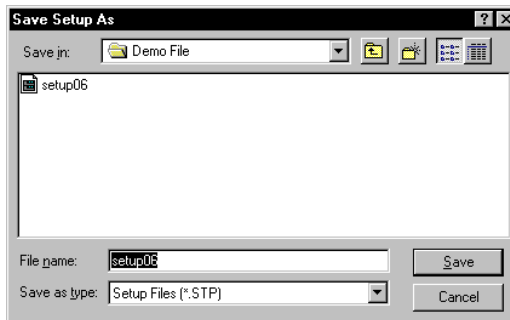

Figure 11.
2. Enter setup06.stp in the File Name Box as shown in figure 11.